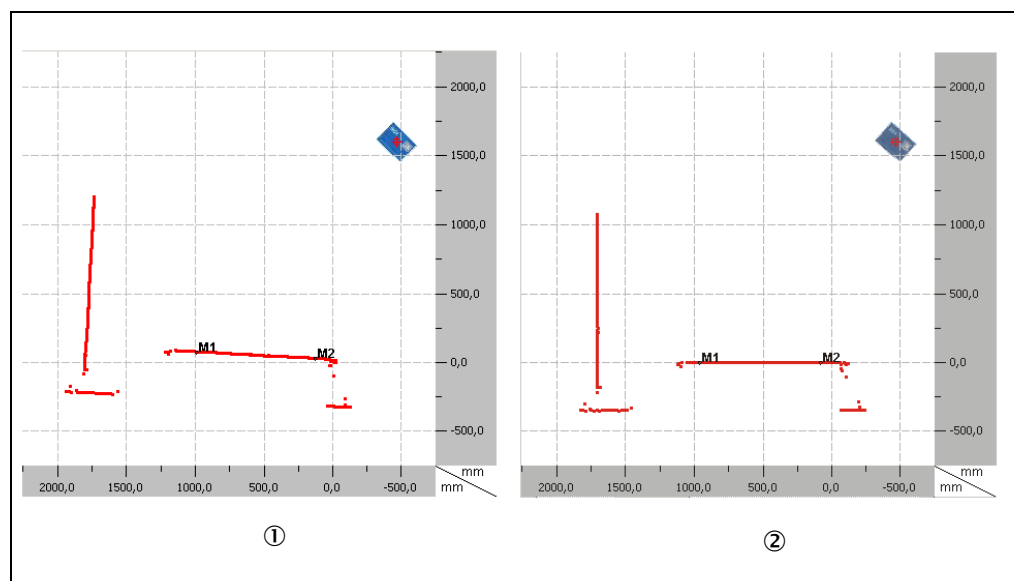

Fig. 22: Example scanned conveyor system
- Position two marks using the right mouse button (M1 and M2). Ensure that the marks are as close as possible to the right and left edge of the conveyor system (see Fig. 22 ①).
The angle γ and the Z coordinate are calculated and the scan line drawn horizontally in the diagram (see Fig. 22 ②).